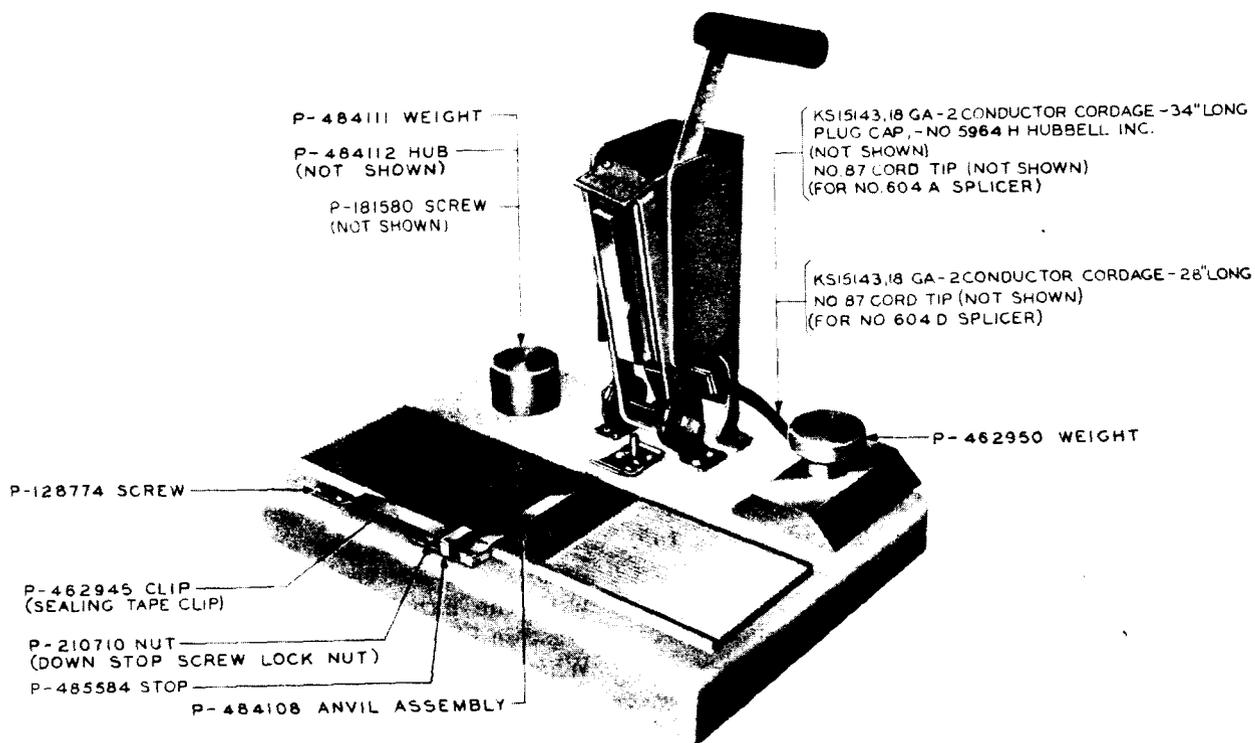

Fig. 1—604A and D Splicers (604D Illustrated)
1.02 This section is reissued to add 1.05, to make corrections to Fig. 1, 2, 3, and 5, and to make other minor changes.